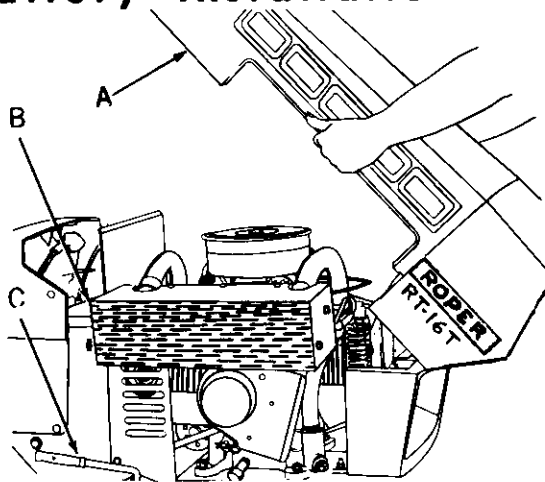
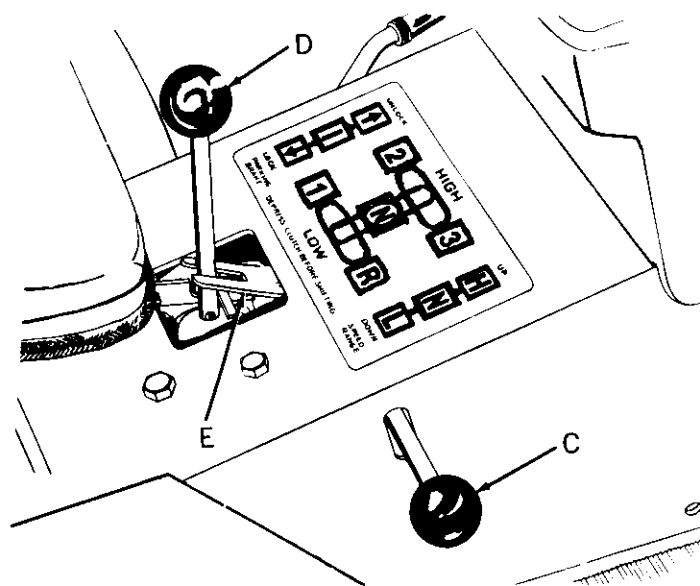
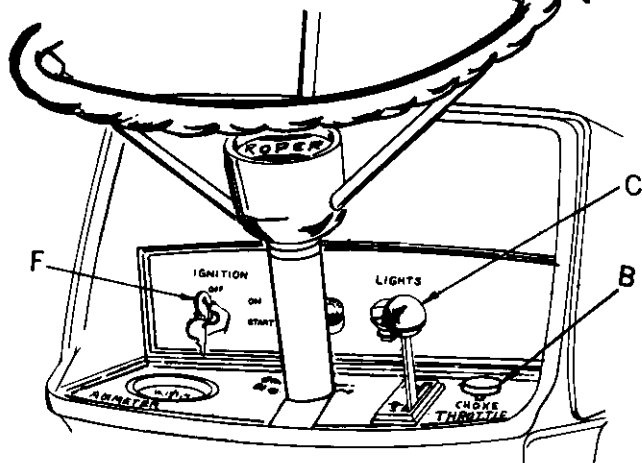

FIG. 3
FIG. 9
FIG. 11
1. Pull out choke control (B), to full choke position to start in cold weather.
2. Advance throttle control lever (C), to about $\frac{1}{2}$ throttle.
3. This Tractor is equipped with two safety switches. One switch is located on the gear shift lever (D, Fig. 9, Page 6, at point E). The other switch is located on attachment clutch lever (C, Fig. 3, Page 4). The gear shift lever must be in neutral (center position). The attachment clutch lever must also be in disengaged (out), position for engine to start. Turn key (F, Fig. 11, Page 6), in ignition-starter switch clockwise to engage starter. When engine starts, release key. After engine starts, push in choke control as engine warms up. Let engine warm up before applying load. CAUTION: Do not run starter continuously for more than 30 seconds at a time. If after several attempts, engine does not start, move throttle control (C), to fast position. Wait two minutes and try again.